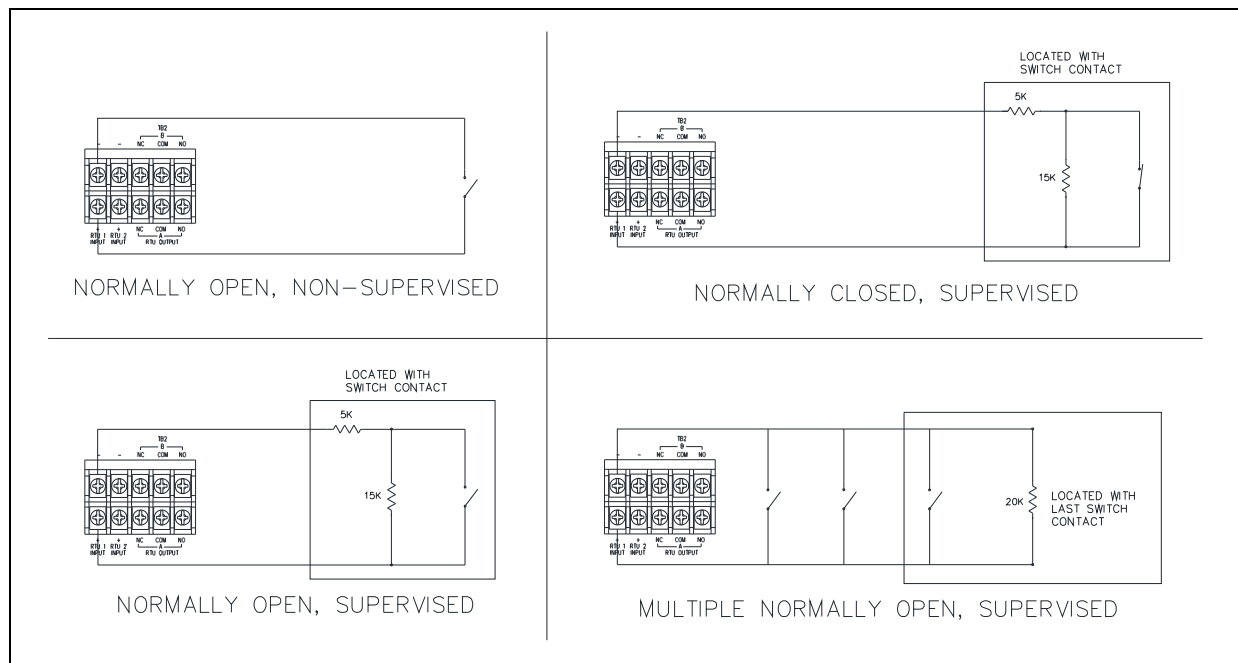

Figure 7. RTU Input Wiring Configurations for Cable Monitoring
5. Install end-of-line resistors (see Figure 7) to enable RTU input-cable monitoring.